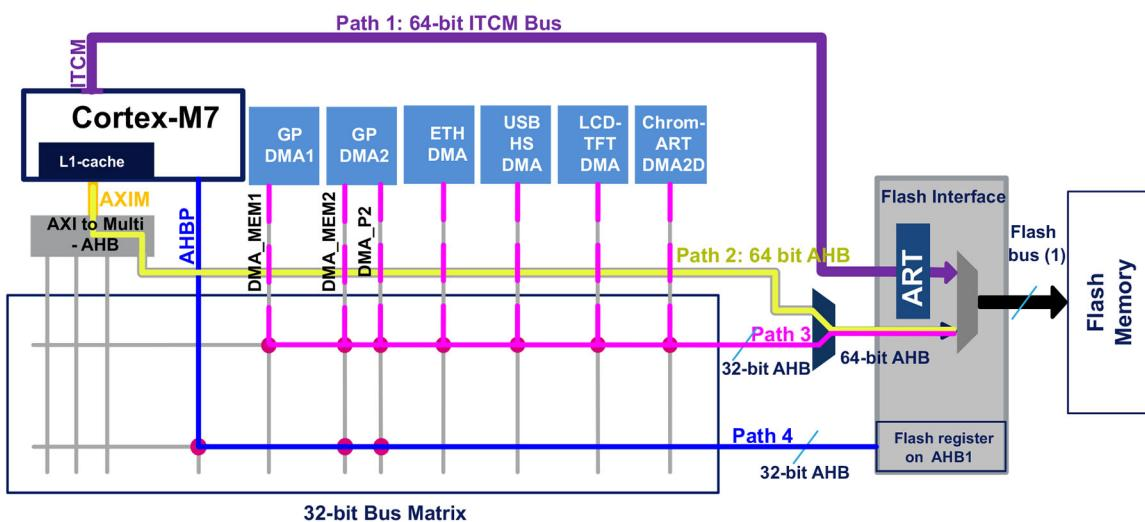

Figure 21.3: How the flash memory is accessed in an STM32F7 MCU
Looking at **Figure 21.3**¹⁰, you can see that the Cortex-M7 core has three distinct paths to access the flash controller (and so the flash memory). Before we describe these three paths, it is important to note a fundamental thing: the Cortex-M7 core already provides an integrated L1-cache. This cache has two dedicated cache pools, each one up to 64KB wide, one dedicated to the *I-Bus* and one for the *D-Bus*: this differs from other STM32 families, where data and instruction caches are implemented exclusively inside the ARTTM Accelerator.
- **A 64-bit ITCM interface:** it connects the embedded flash memory to the Cortex-M7 via the ITCM bus (Path 1 in **Figure 21.3**) and it is used for the program execution and data read
- **A 64-bit AHB interface:** it connects the embedded flash memory to the Cortex-M7 via the AXI/AHB bridge (Path 2 in Figure 21.3). It is used for the code execution, read and write accesses. The flash memory is accessible by the CPU through AXI/AHB bridge starting from the address 0x0800 0000 and it is cacheable (that is, it can use the L1-cache) reaching the same *0-wait* performances of the ART™ Accelerator. The L1-cache in Cortex-M7 cores can range from 4KB to 16KB. STM32F7/H7 provide two cache pools, one for the instructions (*I-Bus*) and one for the literal pools (*D-Bus*), each one up to 16KB wide. The L1-caches on all Cortex-M7 cores are divided into lines of 32 bytes. Each line is tagged with an address. The data cache is 4-way set associative (four lines per set) and the instruction cache is 2-way set associative. This is a hardware compromise to keep from having to tag each line with an address.
- **A 32-bit AHB interface:** it is used for DMAs transfers from the flash memory (Path 3 in Figure 21.3). The DMAs flash memory access is performed starting from the address 0x0800 0000.
A fourth path exists (see Figure 21.3) through the *Advanced Bus Peripheral* (AHBP) interface, and it is reserved to the access to flash peripheral registers inside the 0x4000 0000 peripheral mapped region.